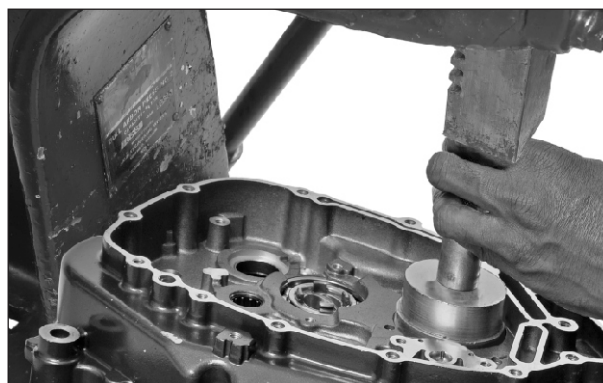

Fig. 3.158
- Using the special tool (bearings installer set), bearings and oil seals can be removed and reassembled. (Fig. 3.158)